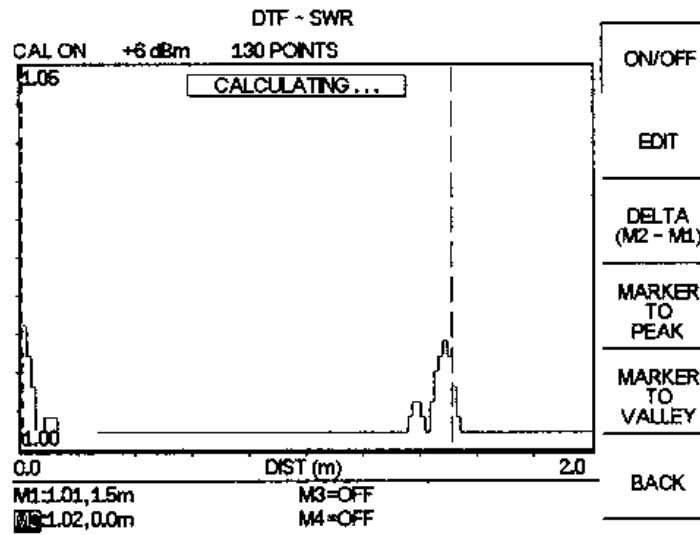

Figure 4-15. DTF - SWR Measurement Results (cable quality)
**Step 30.** Press the **MARKER TO PEAK** soft key to find the maximum SWR or Return Loss reading. (See Figures 4-15 and 4-16.)